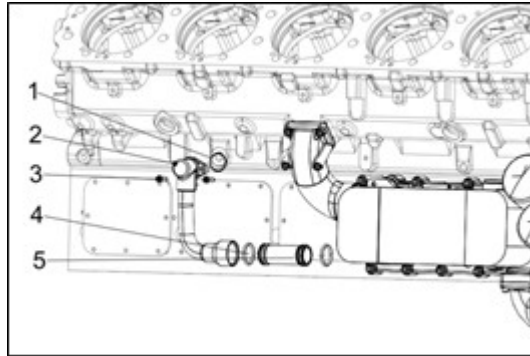

Figure 177
9. Install the oil cooler oil outlet pipe (Fig 177, item 20), fit the O-ring (Fig 177, item 4) to the joint pipe (Fig 177, item 5), connect the oil outlet pipe with the oil cooler, tighten the fixed bolts (Fig 177, item 3) with O-ring (Fig 177, item 1). Torque bolts to 35 N·m.